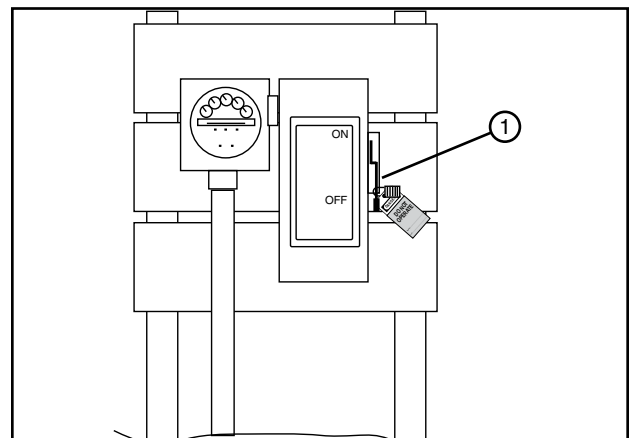

Figure 89-1 1. Public Power Service Disconnect
- (a) SHUT OFF and LOCK the public power service disconnect to the irrigation machine. FILL OUT the blue (OSHA safety color code) tag and attach to the disconnect after locking. See Figure 89-1.